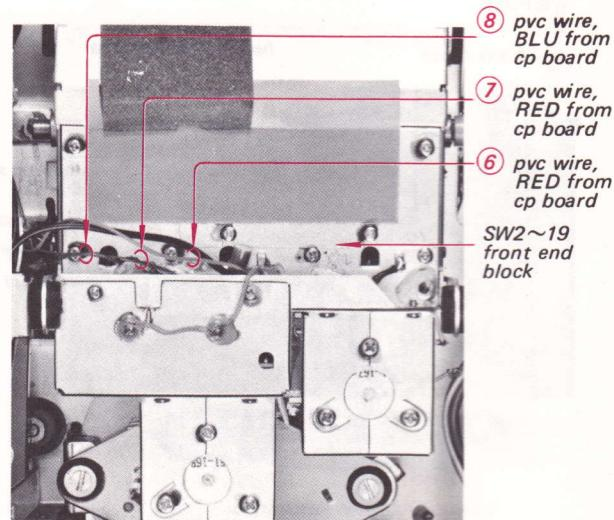

Fig. 2-17
7. Unsolder the three wires **(6) (7) (8)** which come from the sw front end as shown in Fig. 2-17.